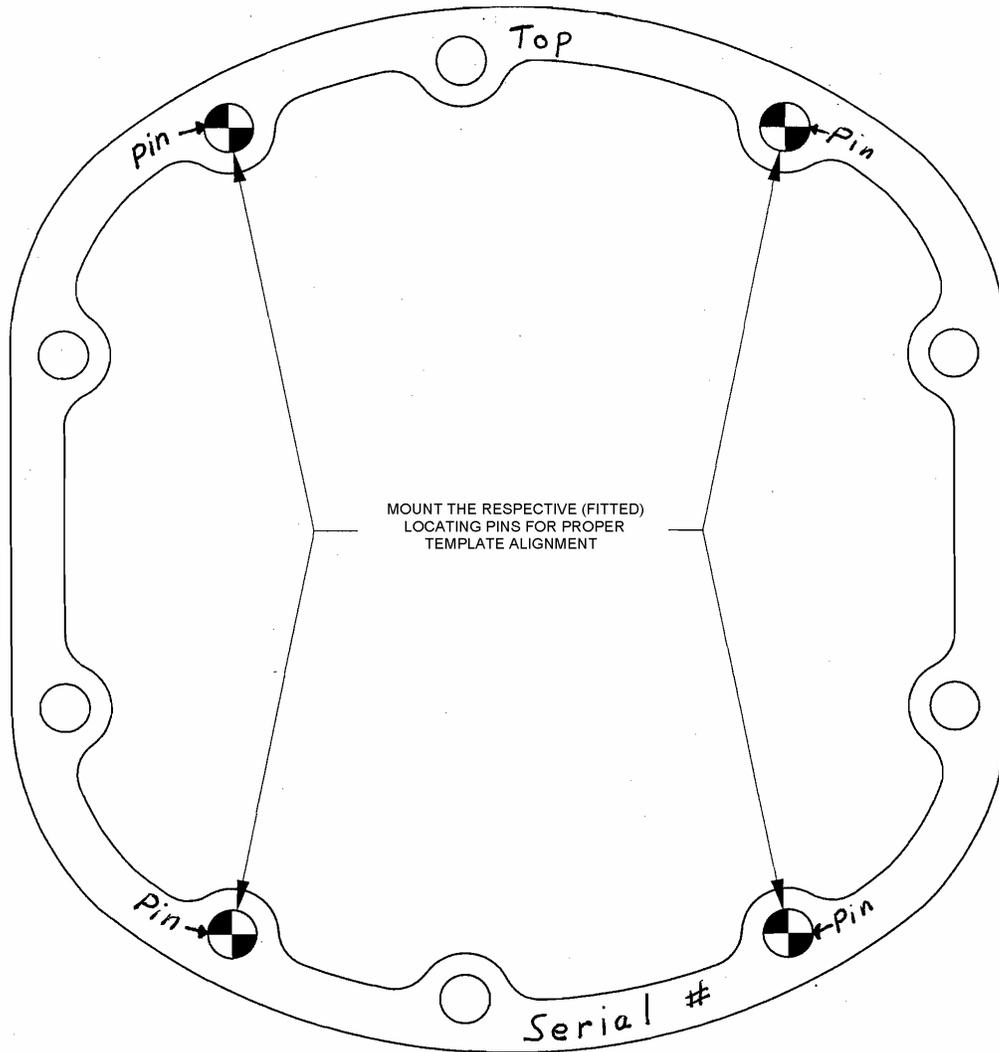

FIG. A1.14 Axle Cover Rating Template
At the February 7, 2006 L-33-1 Surveillance Panel meeting, the panel approved a motion to accept the serialization and marking of axle cover rating templates. Templates were checked for correct pin hole alignment, serialized, and made traceable with an equipment record card document that will be maintained at the TMC. Section A4.8 and Figure A1.14 of Test Method D7038 have been revised. New Sections A4.9, A4.10, and A4.11 have been added.
- A4.8 Rate the V99.1 and all subsequent hardware with the axle cover rating template shown in Fig. A1.14.
- A4.10 Use four (4) stainless steel tapered alignment pins, McMaster Carr part number 90681A383, 0.305 in. by 0.409 in. by 5 in. long, to assure proper alignment with the axle cover. The pin locations are identified on the axle cover rating template shown in Fig. A1.14.